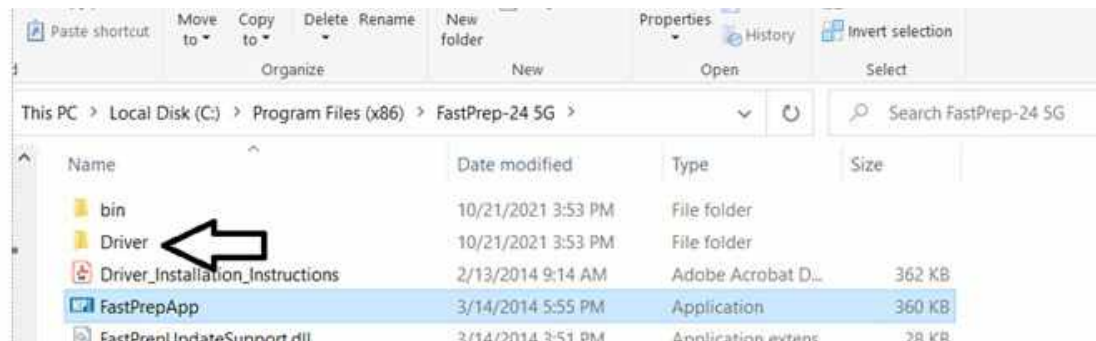

Figure V-30a: Dialog Box Window
5. On the new dialog box window (Figure V-30a), select the Driver folder and find the application files.